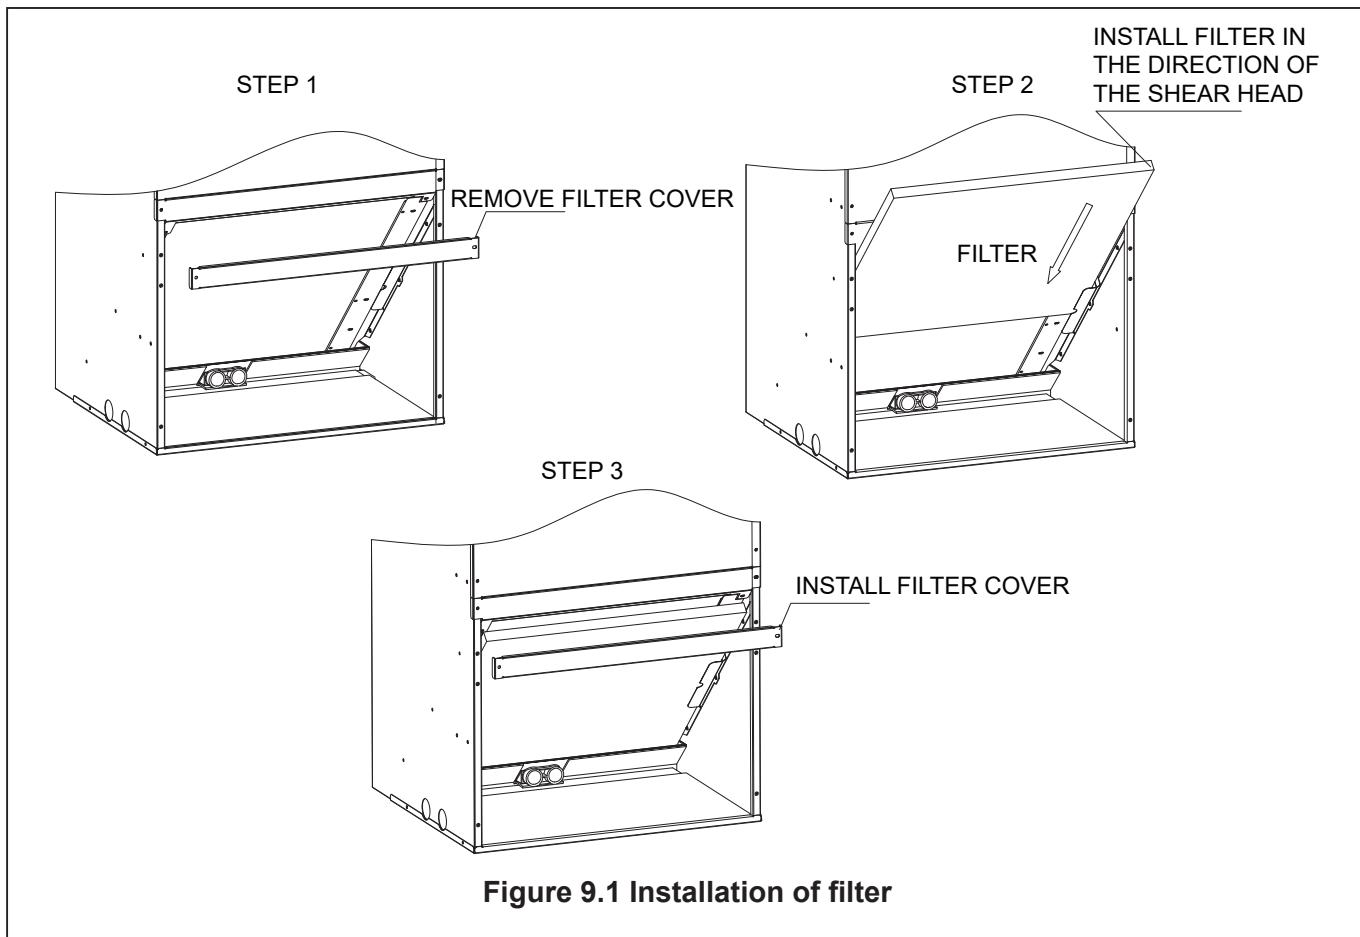

Figure 9.1 Installation of filter
- Manually remove the bolts and remove the filter cover, as shown in Figure 9.1.